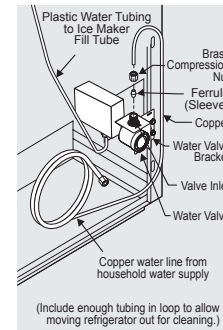

Figure 1
4. **If you use copper tubing** - Slide brass compression nut, and then ferrule (sleeve) onto water supply line. Push water supply line into water valve inlet as far as it will go (¼ inch / 6.4 mm). Slide ferrule (sleeve) into valve inlet and finger tighten compression nut onto valve. Tighten another half turn with a wrench; DO NOT overtighten. See Figure 1.